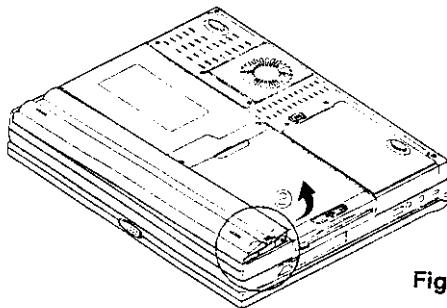

Figure 1-5
3. Carefully lift the battery pack from the computer (Figure 1-5).